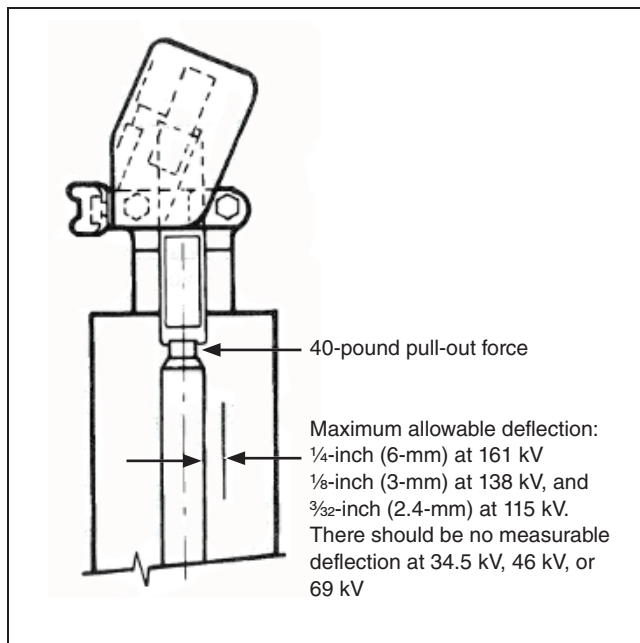

Figure 3. Blade closure verification.
- STEP 7.** Check for proper blade closure by manually pulling the blade assembly away from its **Closed** position. See Figure 3. With a pull-out force of approximately 40 pounds applied at the position indicated, blade deflection should be no more than indicated.